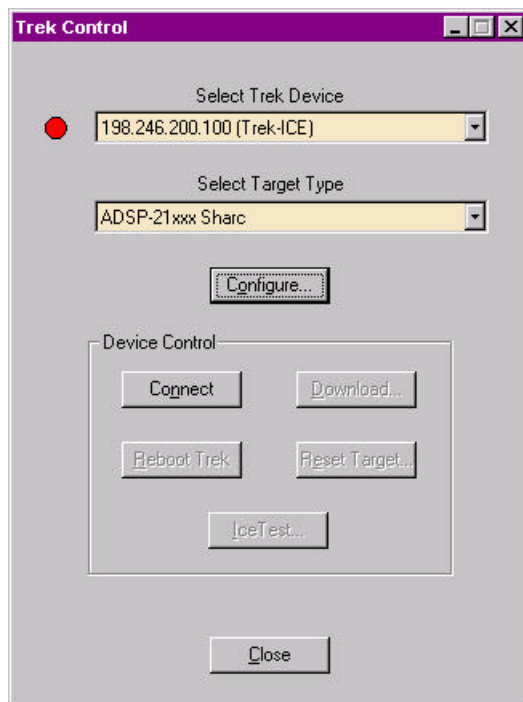

Figure 9. Device Connect
5. Click the **Connect** button. See figure 9. If the connection is successful then a green circle will appear next to the device selection and the Download, Reboot Reset and IceTest buttons will become active.